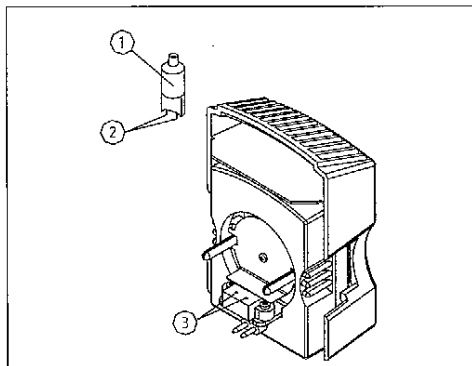

Fig.5
2. Holding the bulb ① with a piece of gauze or other protection materials, insert the bulb pins straight and fully into the pin holes③ on the lamp house. (Fig.5)